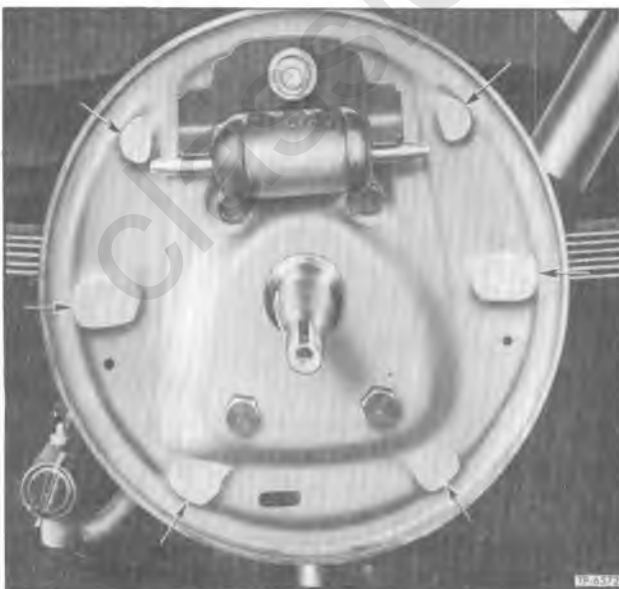

Figure 31—Brake Shoe Contact Surfaces and Backing Plate
11. Pry shoes away from backing plate and lubricate shoe contact surfaces with special lubricant (S-17). Be careful to keep lubricant off linings. Refer to figure 31.